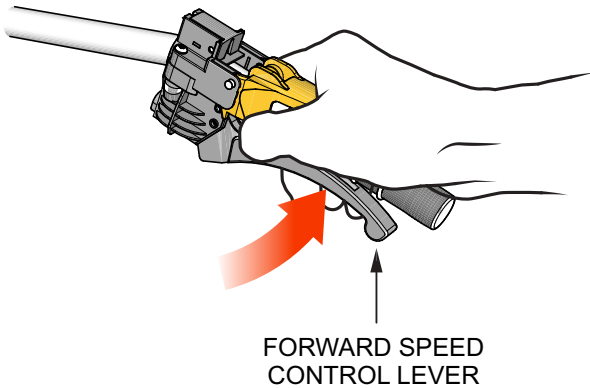

Figure 18. Forward Speed Control Lever (Gas)
4. Slightly squeeze the **forward** speed control lever (Figure 18) until the buggy begins to move in a forward direction.